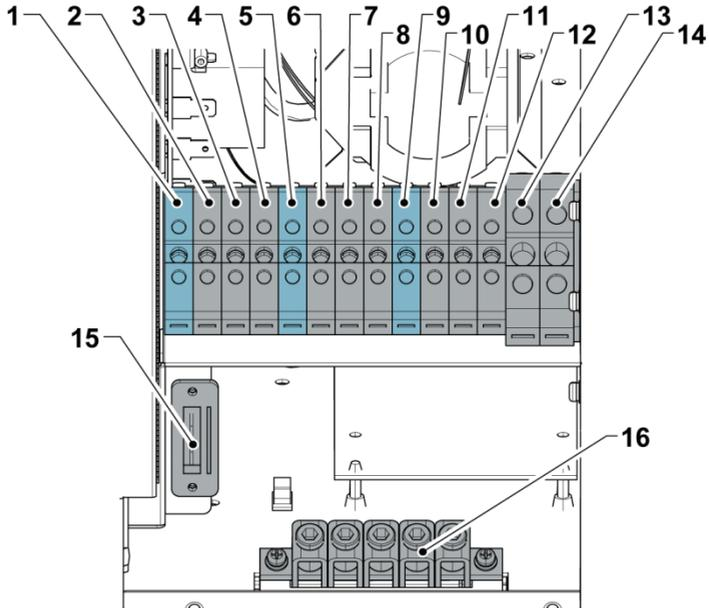
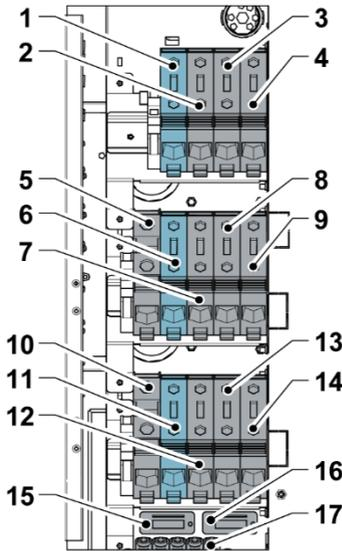

Figure 10. 93PS UPS 8-20 kW power cable terminals
Figure 11. 93PS UPS 30-40 kW power cable terminals
See Figure 10 and Figure 11 for power cable terminations.
For the external separate battery option, there are separate terminals for both battery banks (cabinets). These terminals replace terminals 5 and 10 shown in Figure 11.
4. Connect the cables to the respective terminal blocks, see Figure 10 and Figure 11.